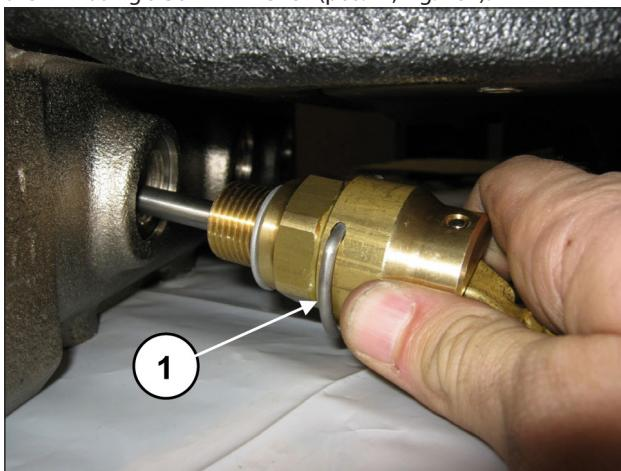
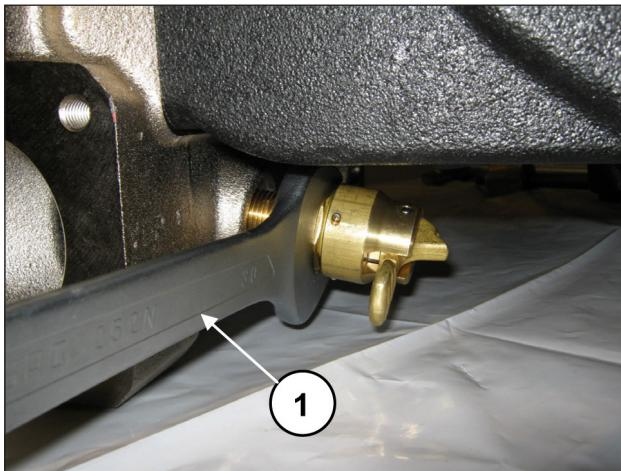

Fig. 166
Fig. 167
Apply the valve opening devices (pos. ①, Fig. 166) and screw them in using a 30 mm wrench (pos. ①, Fig. 167).